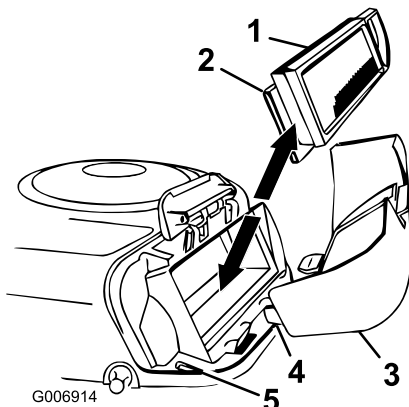

Figure 22
7. Carefully slide the paper element and the foam element from the blower housing (Figure 22).
2. Align the tabs on the air cleaner cover with the slots of the blower housing (Figure 22).